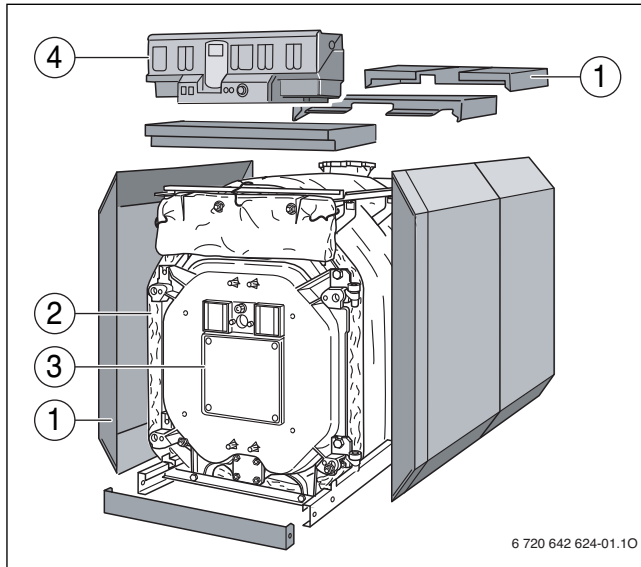
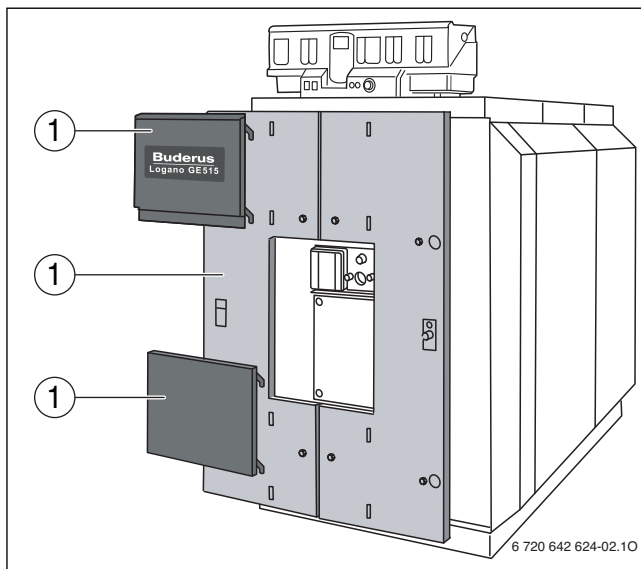

Fig. 1 Oil/gas-fired boiler Logano G515
Fig. 2 Front jacket
- Boiler block (→ Fig. 1, [3]) The boiler heat exchanger transfers the heat generated by the burner to the boiler water.
- Boiler shell (jacket, (→ Fig. 1 [1] and Fig. 2, [1]), thermal insulation (→ Fig. 1, [2]). The boiler jacket and thermal insulation minimize energy loss.
- Control panel (→ Fig. 1, [4]). The control panel is designed to monitor and control all electrical components of the Logano G515 oil/gas-fired boiler.